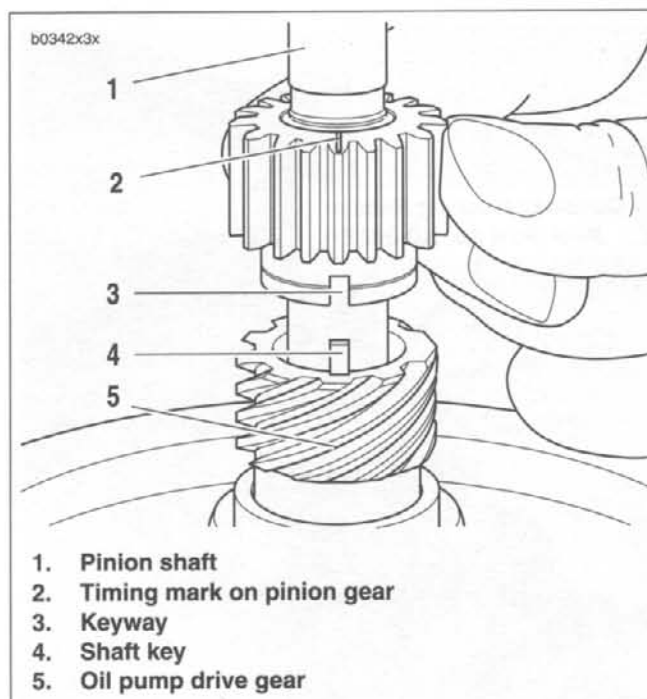

Figure 3-75. Aligning Pinion Gear
1. See Figure 3-75. Install oil pump drive gear (5) and pinion gear on pinion shaft.
- a. Slide oil pump gear drive gear (5) over pinion shaft (1). Drive gear must align with shaft key (4).
- b. Align keyway (3) in ID of pinion gear with shaft key (4).
- c. Slide pinion gear over shaft key (4) and against oil pump drive gear (5).